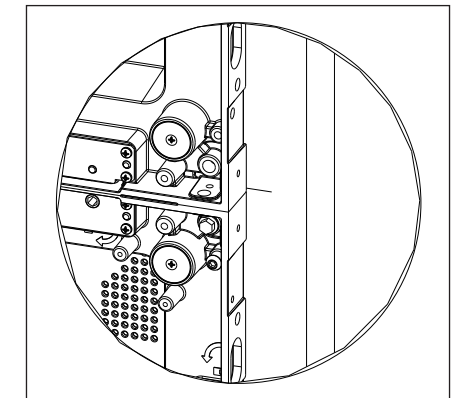

Figure 8: Align Panel Faces
3. Ensure the front edges of the panels align completely. Refer to **Figure 8**.